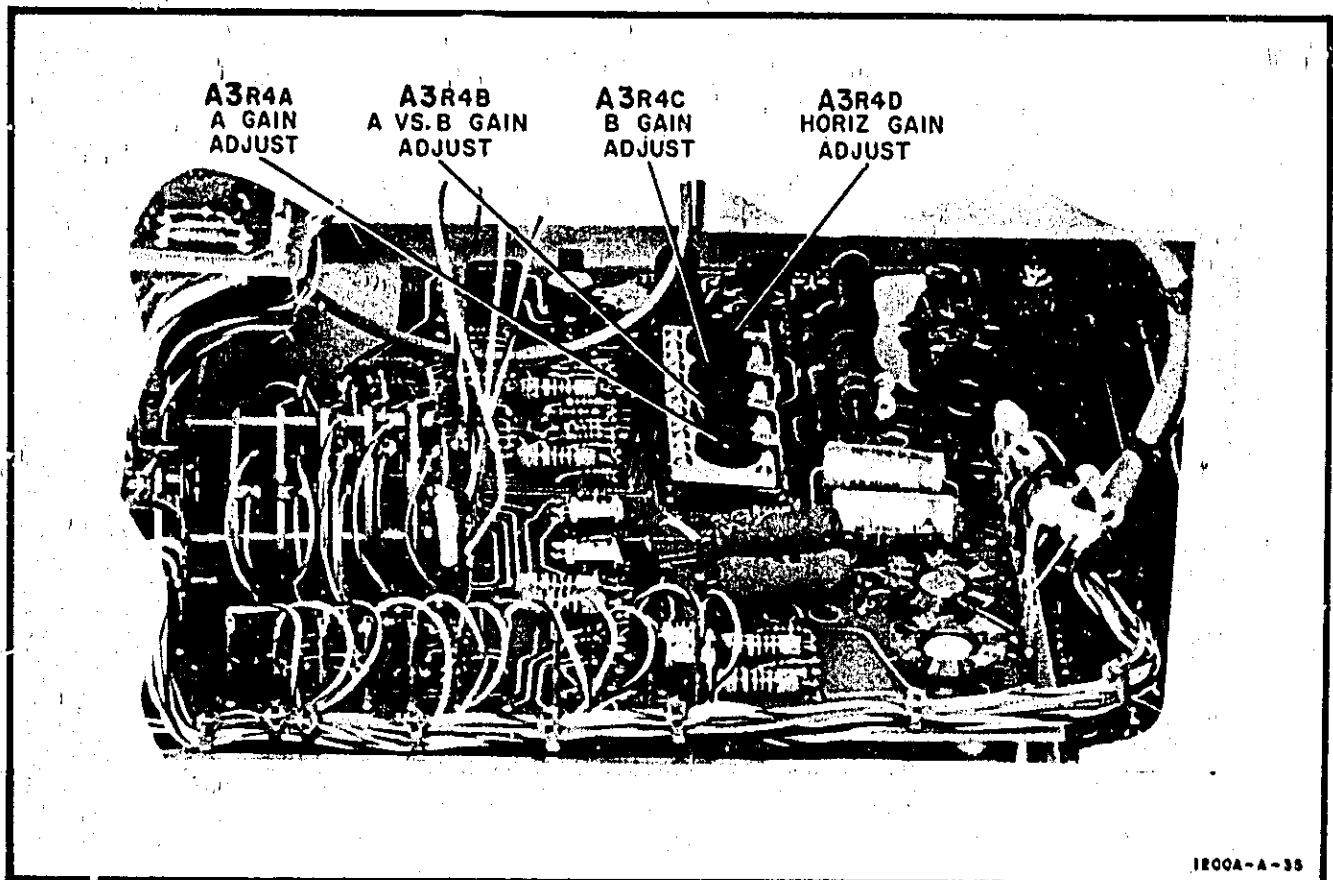

Figure 5-5. Dual Channel Output Amplifier Adjustments
- c. Adjust A3R4A (Figure 5-5) for 5 divisions vertical deflection.
- f. Adjust A3R4B (Figure 5-5) for 5 divisions horizontal deflection.
- h. Adjust A3R4C (Figure 5-5) for 5 divisions vertical deflection.